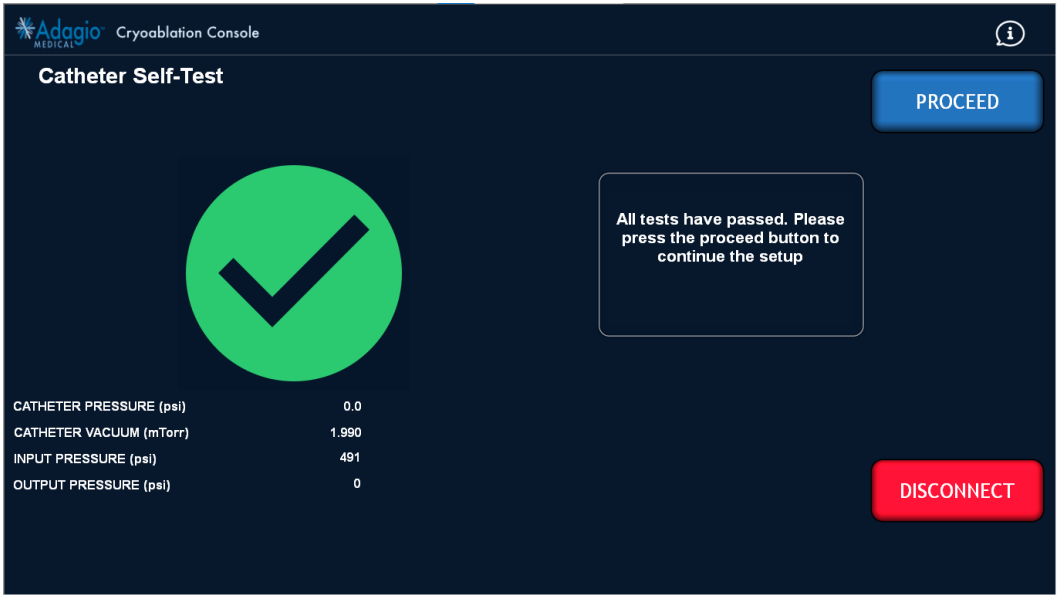
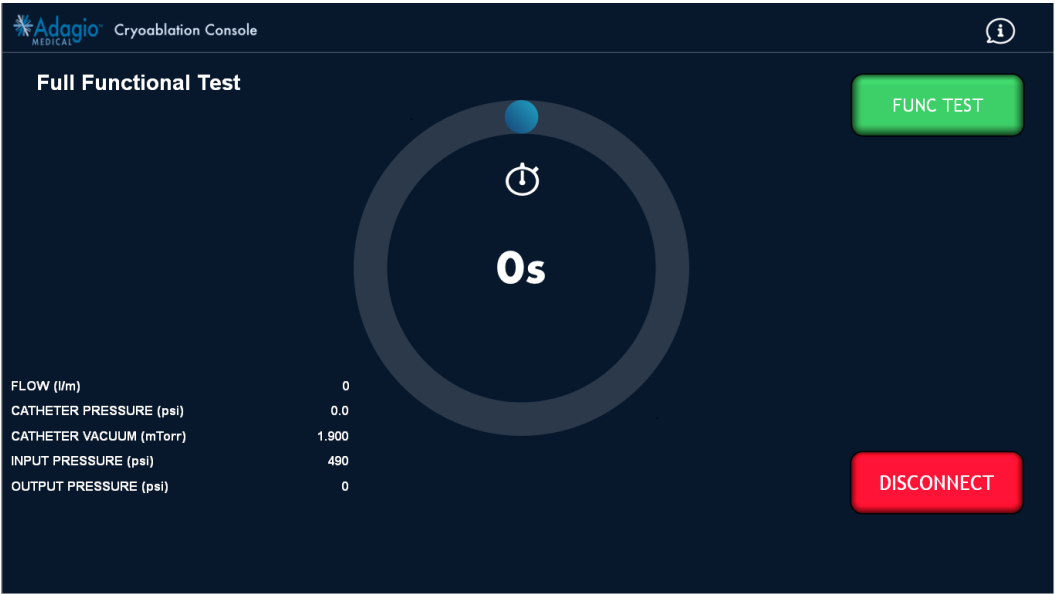
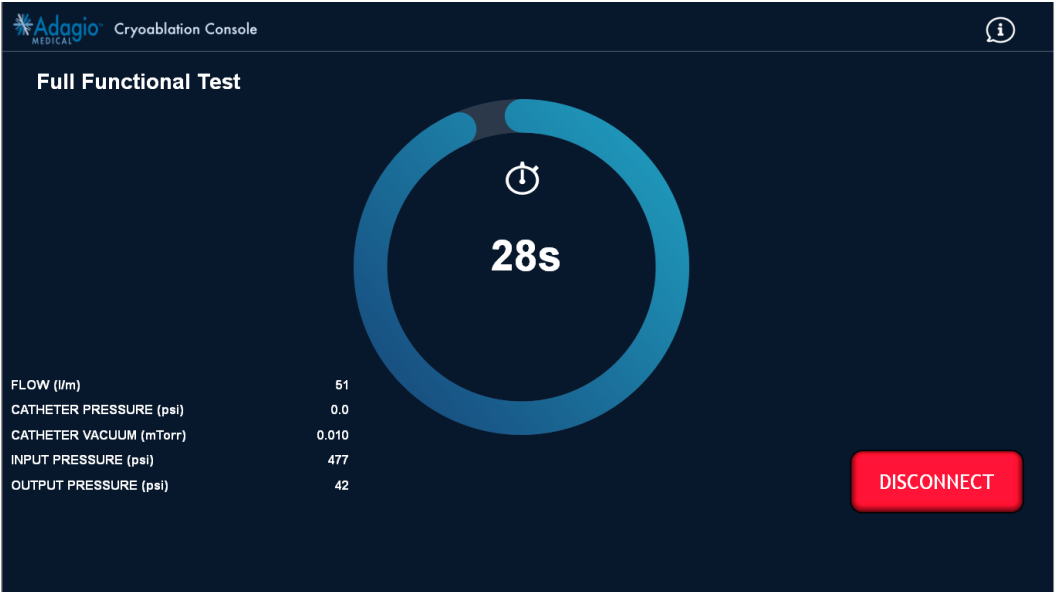
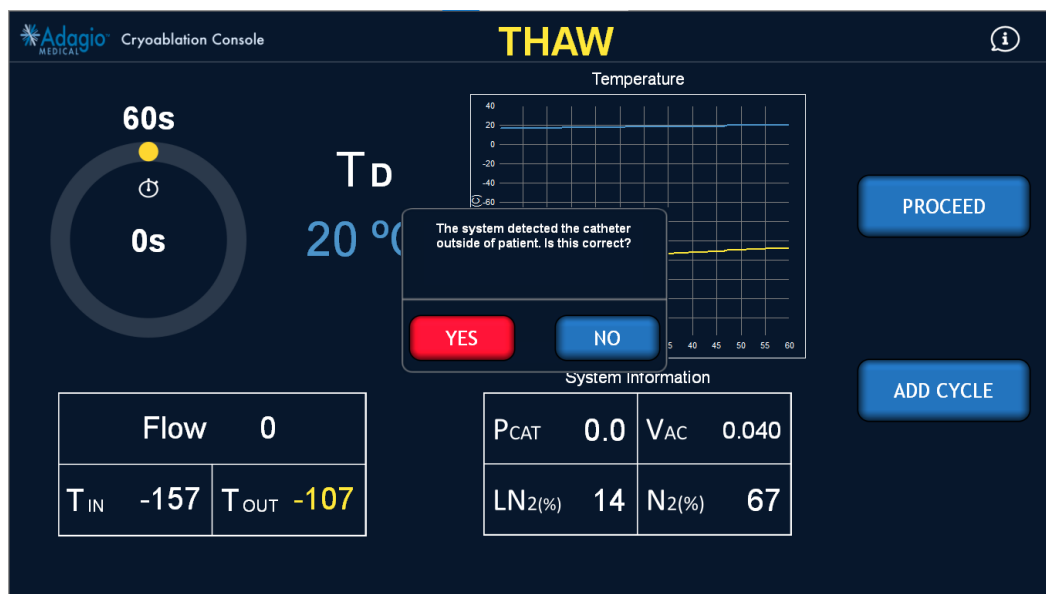

Figure 40 – Catheter Self-Test Complete Screen Image
Figure 43 – Full Functional Test Screen Image
Figure 44 – Full Functional Test In-progress Screen Image
Figure 53 – System Detect Catheter Outside of Patient Screen Image
12. Upon completion of Catheter Self-Tests (Figure 40), user will be prompted with the below message. Click on the “PROCEED” button to enter Full Functional Test mode (Figure 43).
13. Prior to performing Full Functional Test, immerse the Cryoablation Element (freezing portion) into saline. When ready, in the Full Functional Test screen (Figure 43), click on the “FUNC TEST” button to begin freezing which takes 30 seconds. During the freeze, observe the catheter to ensure that ice forms along the Cryoablation Element and no gas bubbles are released or formed in the ice. In the Full Functional Test In-progress Screen (Figure 44), also observe the Catheter pressure on-screen does not rise above 1 psi. DO NOT USE catheter if bubbles or catheter pressure increase were seen.
8. The Console can detect when the Catheter has been removed from the patient at any point during the procedure (except during a Freeze cycle). If the Console detects Catheter removal, a dialog box will appear as in (Figure 53) asking the user to select “YES” or “NO”. If “NO” is selected, the dialog box will disappear, and the user can proceed to the next freeze. If “YES” is selected, the Full Functional Test screen (Figure 43) will appear and a Full Functional Test must be performed.